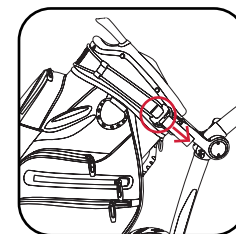

Fig 1
1. Stretch the elasticated strap around the bag & loop the rounded bar underneath the hook (fig. 1)